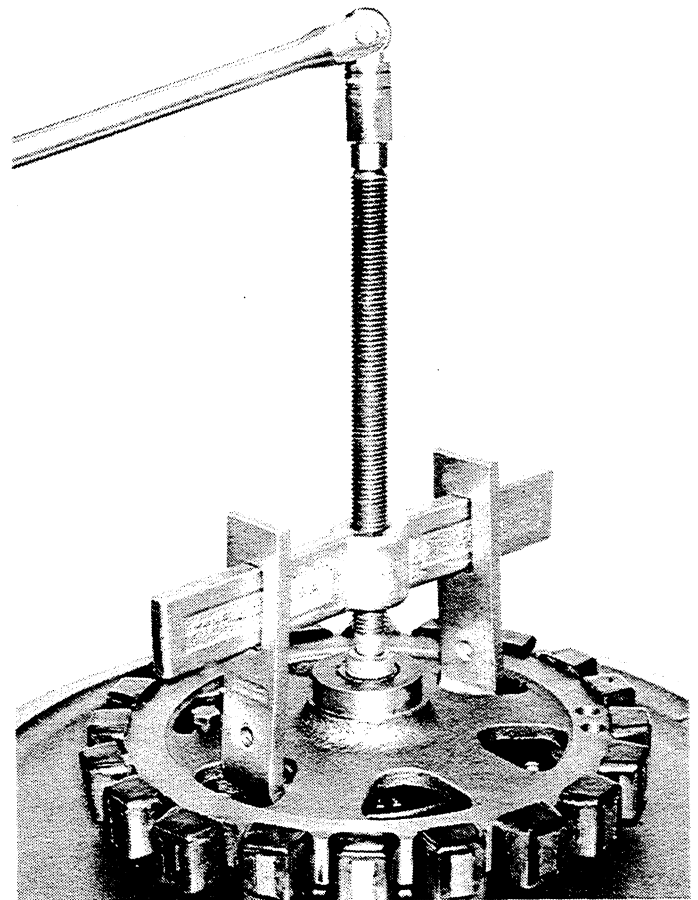

Figure 6-1. Removing Input Drive Spider.
8. Use a puller to remove drive spider (5). See Figure 6-1.